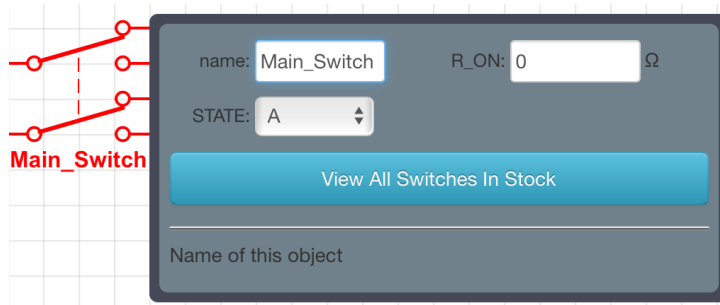

Figure 12. Attribute panel
2. Edit the attribute of the element (Figure 12.).